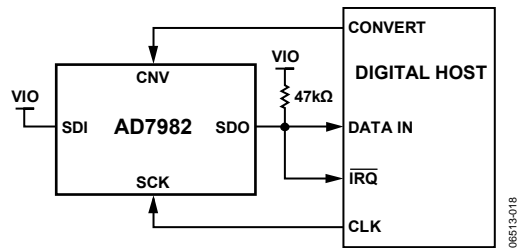
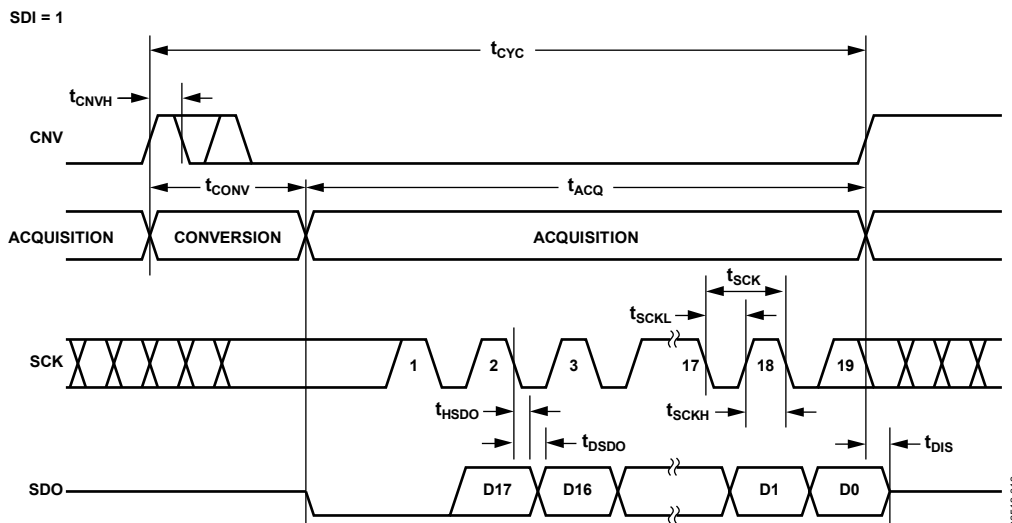
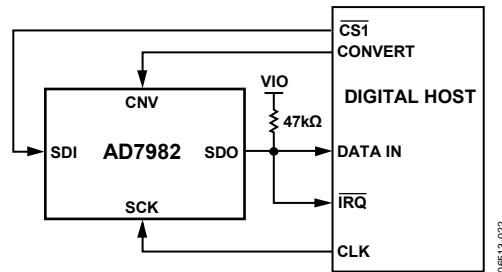
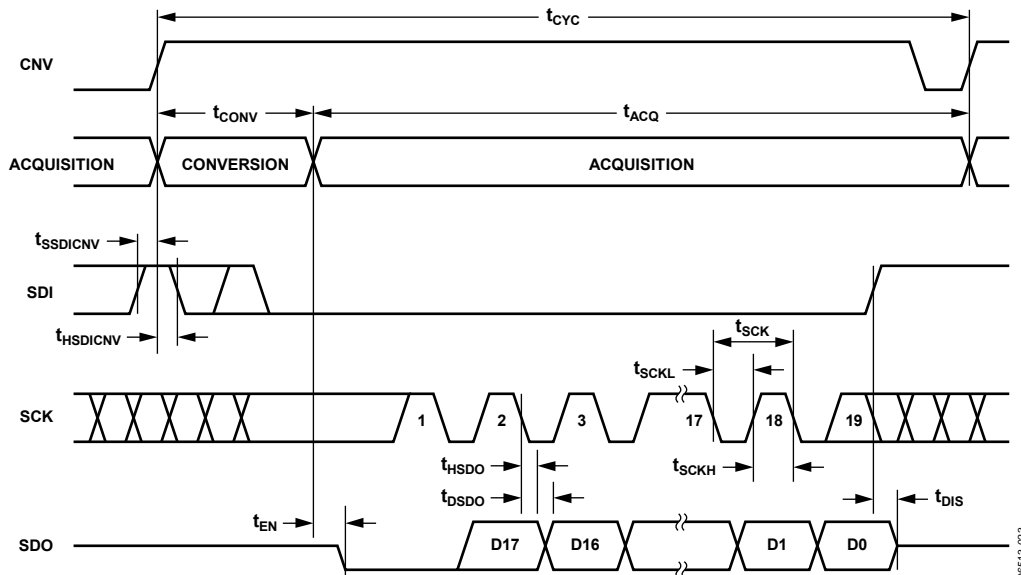

Figure 31.  $\overline{\text{CS}}$  Mode, 3-Wire with Busy Indicator Connection Diagram (SDI High)
Figure 32.  $\overline{\text{CS}}$  Mode, 3-Wire with Busy Indicator Serial Interface Timing (SDI High)
Figure 35. CS Mode, 4-Wire with Busy Indicator Connection Diagram
Figure 36. CS Mode, 4-Wire with Busy Indicator Serial Interface Timing
- In the  $\overline{CS}$  mode if CNV or SDI is low when the ADC conversion ends (see Figure 32 and Figure 36).
The connection diagram is shown in Figure 31, and the corresponding timing is given in Figure 32.
The connection diagram is shown in Figure 35, and the corresponding timing is given in Figure 36.